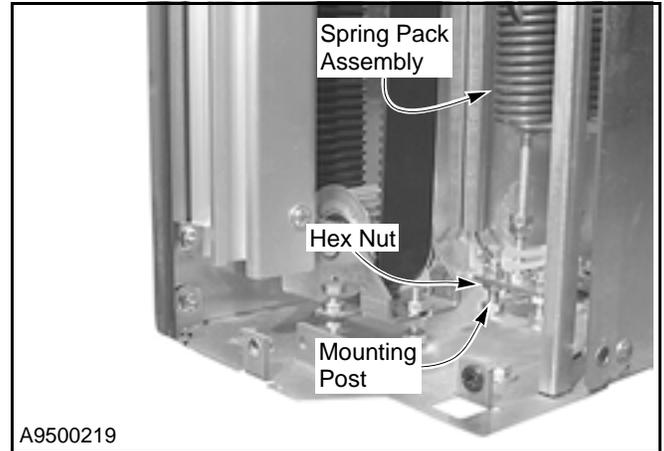

Figure 58
7. Disconnect the associated spring pack assembly from the base plate. To retain the preload setting of the spring pack, loosen only the lower hex nut on each mounting post. (See Figure 58.)